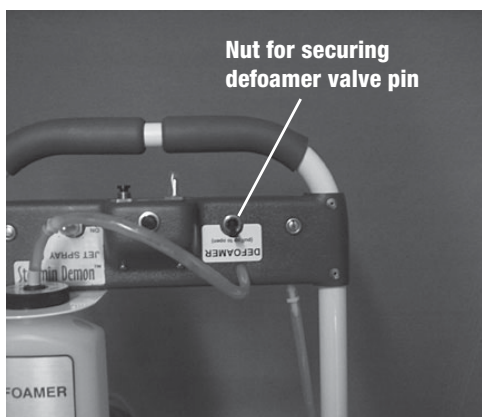

Figure 17
4. Remove and replace defoamer valve. Make sure the top threads of valve are covered with the tightening nut. If not, the pin that holds the toggle paddle in the valve will loosen and fall out (fig. 17).